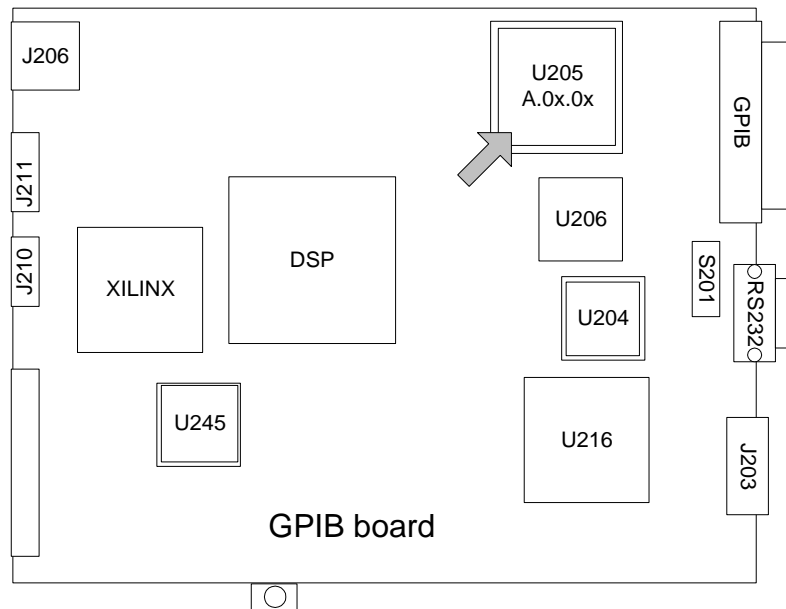

Figure 3. GPIB Board Layout
- i. Once the original ROM has been removed, install the new ROM in its place. Pay close attention to the angled corner, which in Figure 3 below is the bottom left corner where the arrow is located.